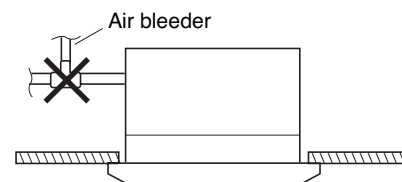

Fig. 3-8
- Do not install an air bleeder tube, as this may cause water to spray from the drain tube outlet. (Fig. 3-8)